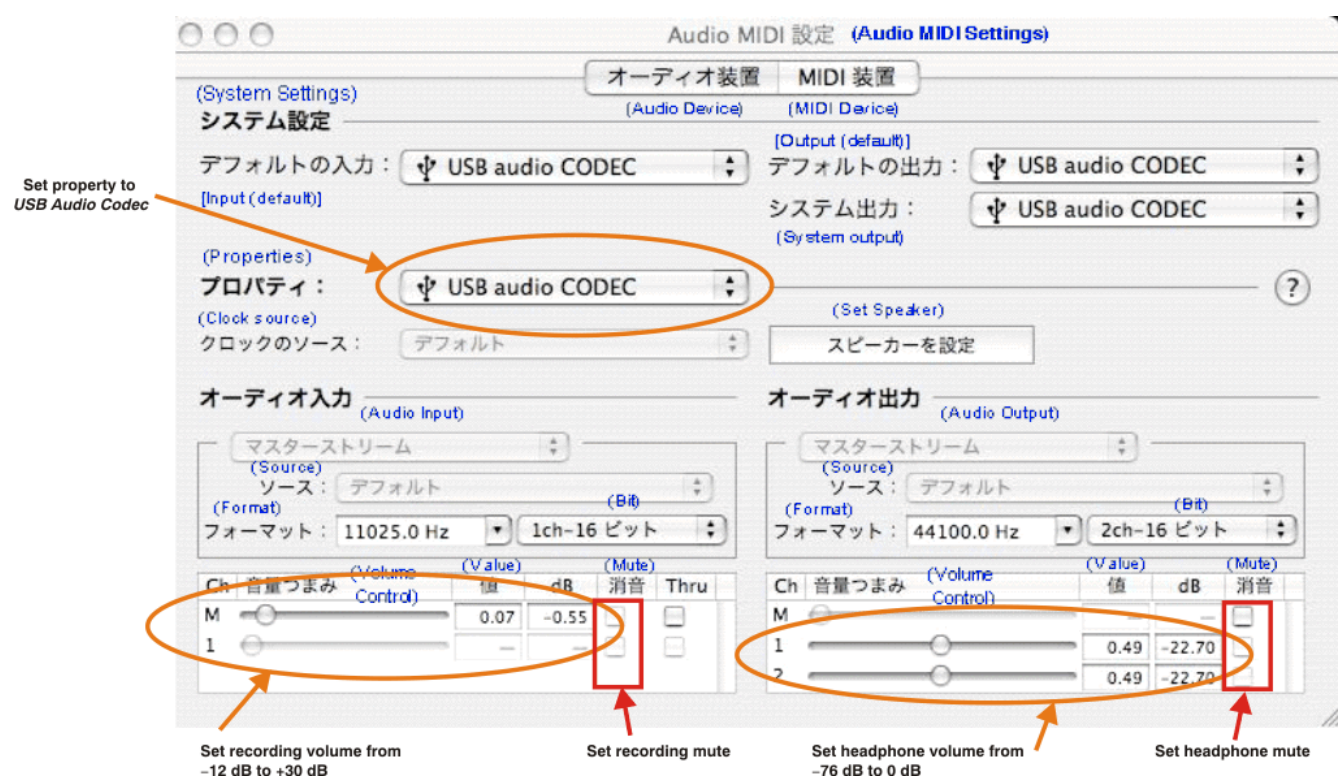

Figure 3-14. Audio Midi Setting Window (Mac OS)
- Step 1. Open the *Audio MIDI Settings* options (*Application*→*Utility*→*Set Audio MIDI*), as illustrated in Figure 3-14. Alternatively, open the *Output* tab of the *Sound* options, as illustrated in Figure 3-13.
1. Open the *Audio MIDI Settings* options (*Application*→*Utility*→*Set Audio MIDI*), as illustrated in Figure 3-14. Alternatively, open the *Input* tab of the *Sound* options, as illustrated in Figure 3-12.